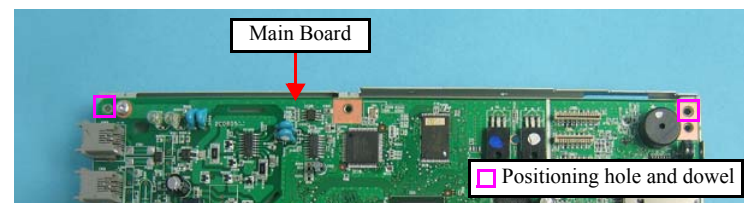

Figure 4-28. Installing the Main Board
- When installing the Main Board to the MB Lower Shield Plate, make sure to match the positioning holes to the dowels (x2) as shown in Figure 4-28.